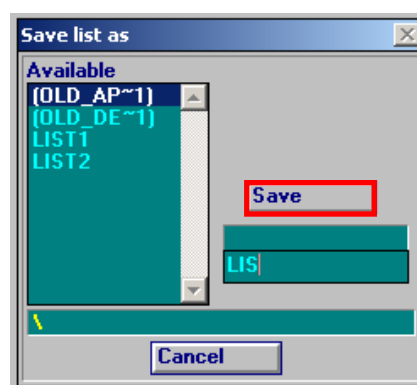

Fig.16b: *Save list as* window
5.4.5 Save your list using the buttons **Save** or **Save as**. In case of a new list, the **Save list as** window (*Fig.16b*) will show up. Give your list a name (8 characters maximum).